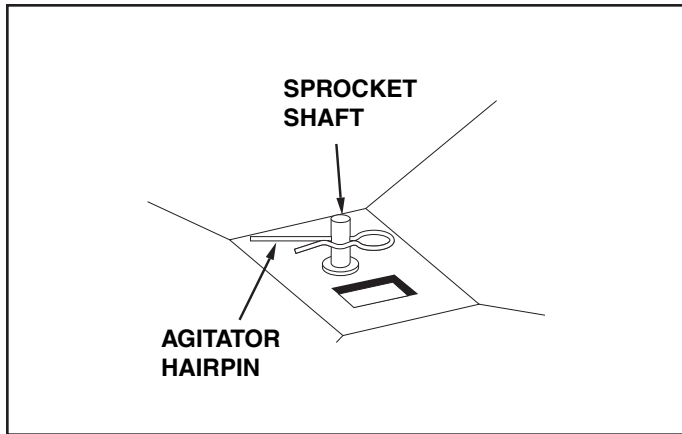

FIGURE 19
- If the agitator hairpin becomes damaged or worn it can be replaced. See figure 19.